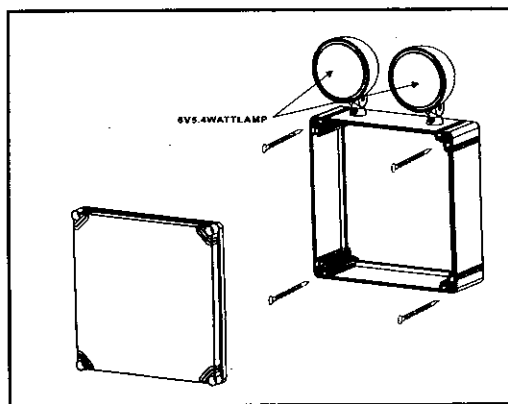
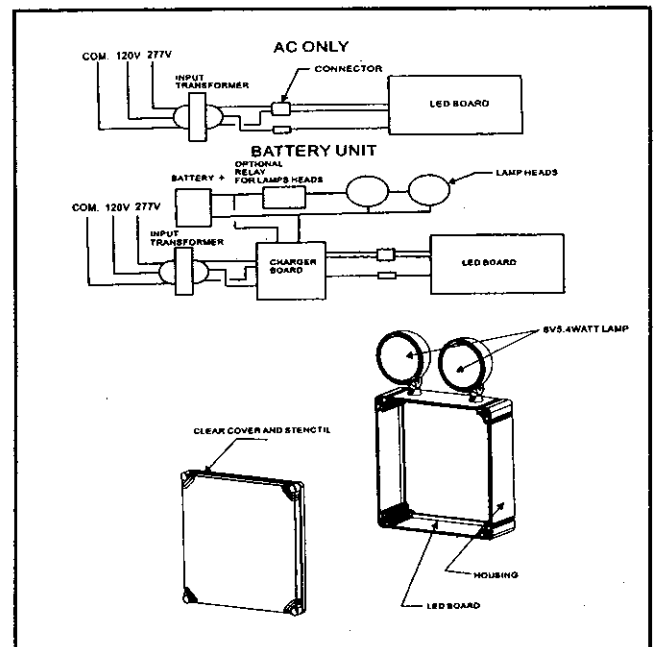

Figure 2
Figure 3
2. Extend 24 hour AC supply of rated voltage to the equipment, which is furnished with a dual voltage 120/277VAC field selectable input (figure 3). Connect unit to utility power using an approved seal tight or NEMA 4 X connector. The unit should be DRILLED for the connector in the proper location as it relates to the location of the entry point of the power feed coming into the unit. There are various places inside the unit that are suitable for this incoming power location. (See figure 2)